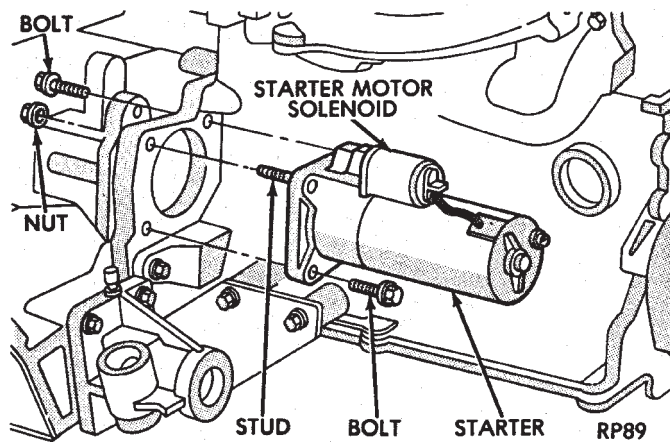

Fig. 3 Bosch Starter—2.5L Engine
- (4) Remove two bolts and one nut attaching starter to engine (Fig. 3).
- (5) Remove starter/starter solenoid assembly from engine. Position the starter to gain access to the wiring connectors.
- (6) Disconnect the positive battery cable and wiring at the starter.
- (7) Remove the starter from vehicle.